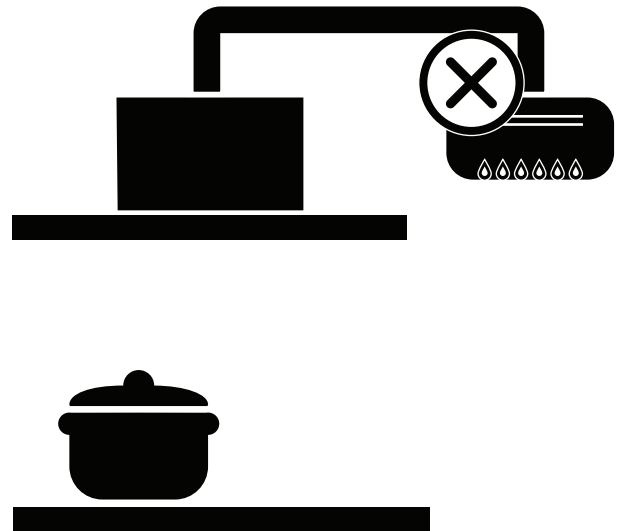

Figure 1
- The exhaust from the cooker hood must not be discharged into any heating flue, which may carry combustion products from other sources. (Figure 1)